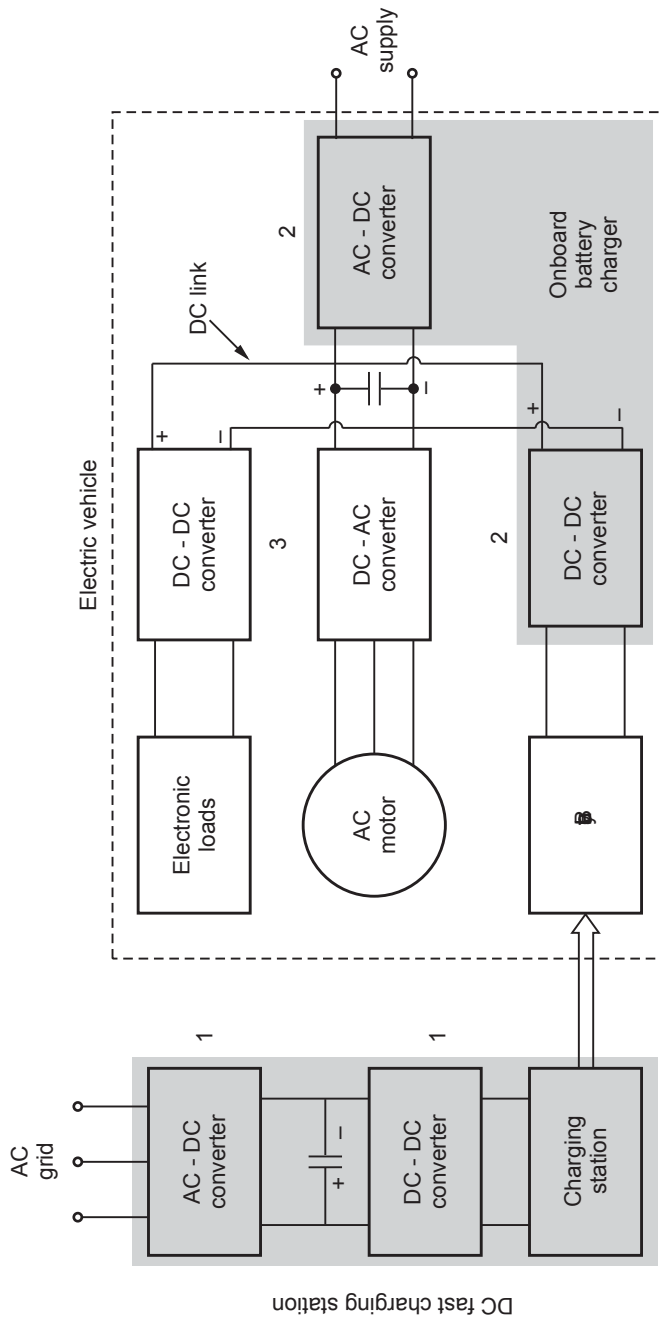

Fig. 6.16.1 Block diagram of electric vehicle
- Fig. 6.16.1 shows the block diagram of electric vehicle along with different power electronic converters. (See Fig. 6.16.1 on page 6.40)